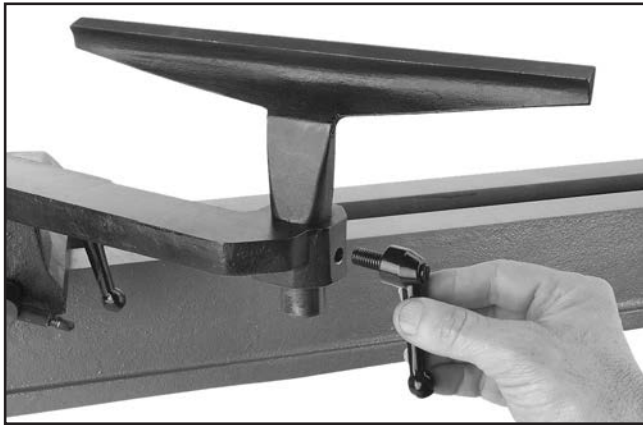

Figure 11. Installing handle into tool rest.
4. Install the tool rest lock lever to secure the tool rest, as shown in **Figure 11**.